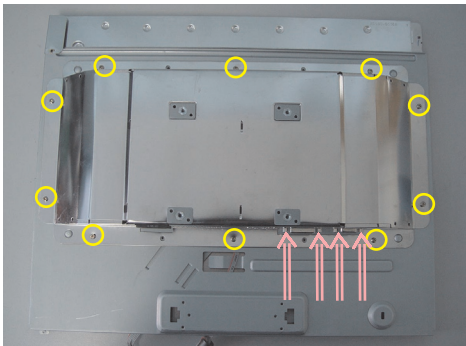

Fig.11
- Remove the ten screws as shown in Fig.11
- Disconnect D-SUB & DVI hexagonal screws as shown in Fig.11